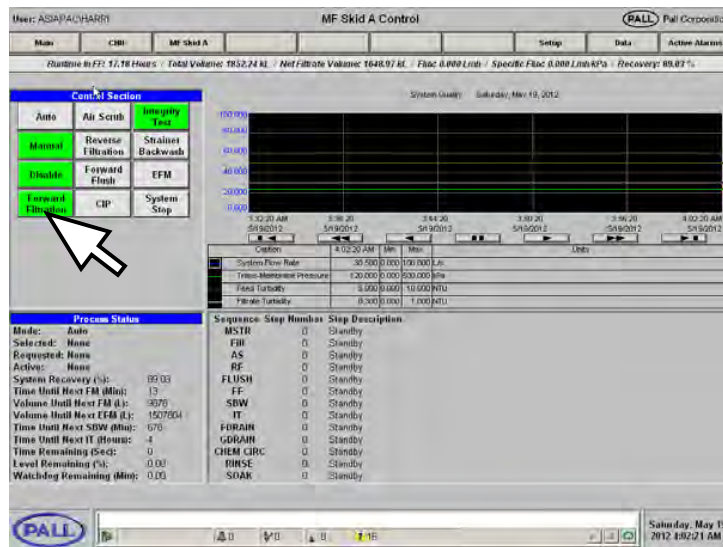

Figure 5.6 – AP Skid Control and Start Confirmation Screens
4. After pressing the **Forward Filtration** button, the start confirmation screen appears (Figure 5.6).